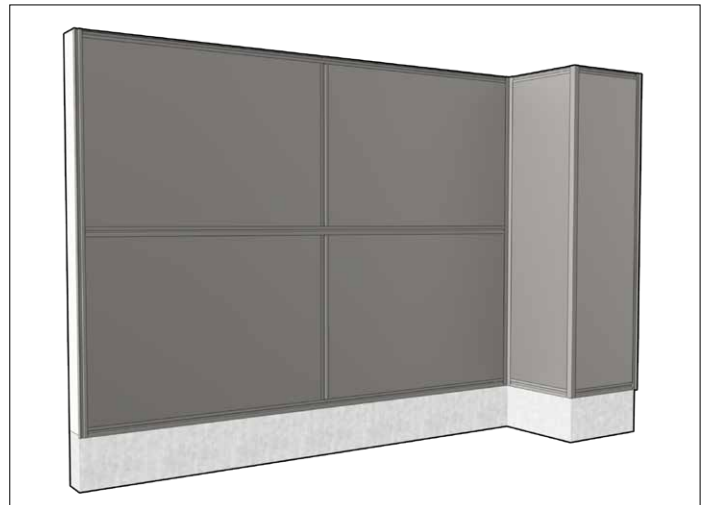

Figure 23.3
29. Remove protective film from the panels after the wall is complete. (Figure 23.3)